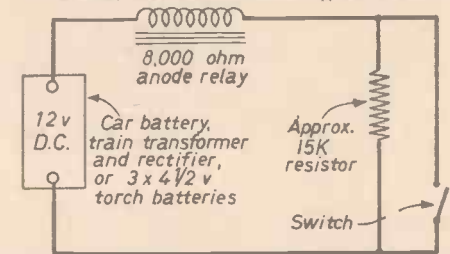

Fig. 11.—Adjusting circuit for 8,000 ohm anode relay. Adjust so that relay pulls in on 1½ mA. with switch closed and falls out on ½ mA. with switch open.
1. Check that the anode relay is operating correctly as shown in Fig. 11 or, if a P.O. type with 50,000 ohms coils is used, as in Fig. 5. Basically the relay must release on 1/2 mA or more and pull in on 1 mA for full sensitivity, but if it pulls in on 2 mA it will do. A baby crying may take the current up to well over 5 mA according to the pitch of the cry.
If using the 8,000 ohm surplus type wire up as in Fig. 11. Now by bending the stop get the armature so that it is within a few thousandths of an inch of the electromagnet. Then bend the spring and the contact stay so that there is very little pressure holding the armature off the electromagnet. The smaller the pressure the better. Now bend one contact until it almost touches the other. If this is done carefully the relay will pull in on 1 mA and fall out on ½ mA.